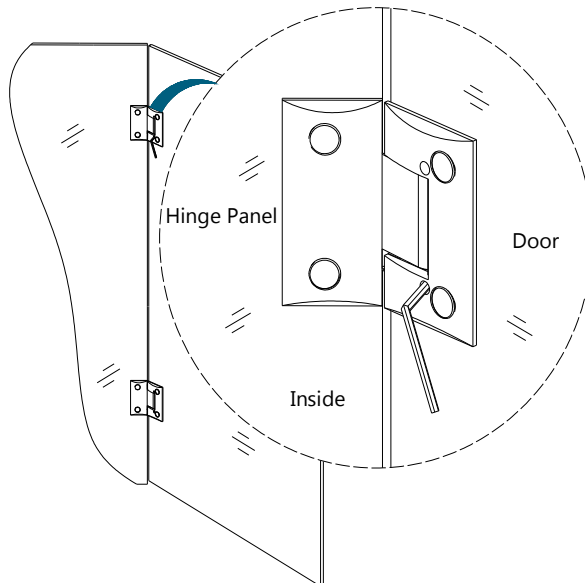

Figure 2
2. The hinges are set to overclose at 130° degrees. You can change this angle by using the adjustment screws on the hinge plate. (Figure 2)